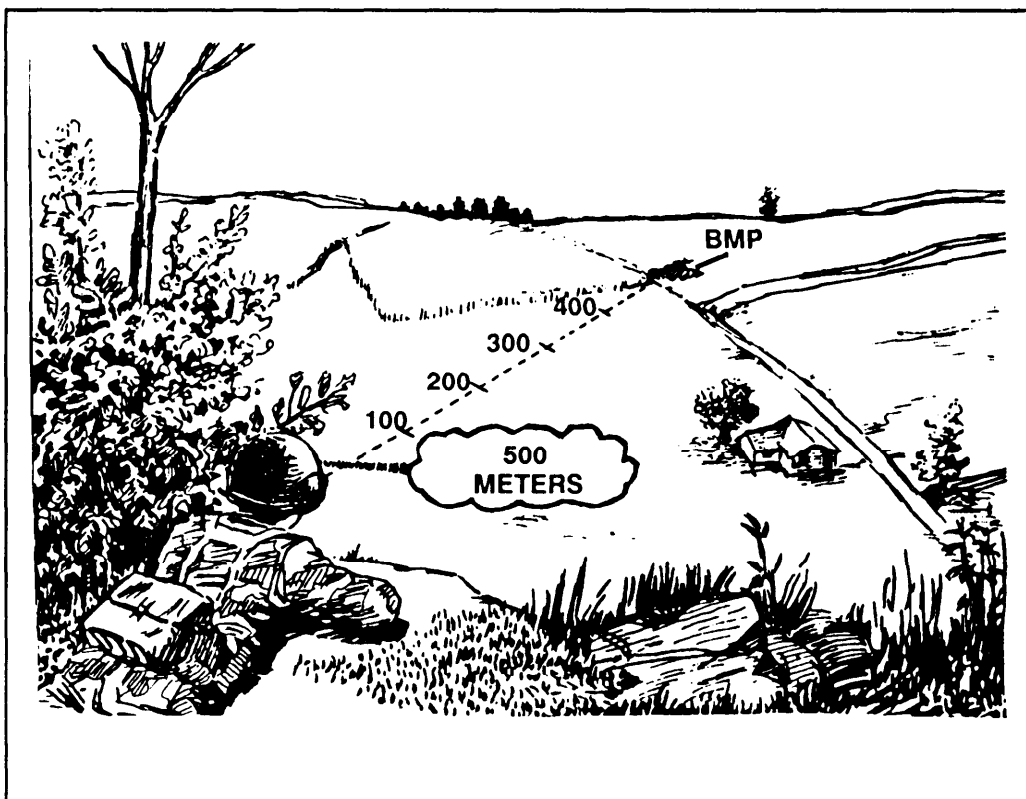

Figure 5-10. 100-meter unit of measure method, less than 500 meters.
(1) When using the 100-meter unit of measure method, the gunner must be able to visualize what 100 meters looks like on the ground. With this distance in mind, the gunner can mentally determine the number of 100-meter units between his position and the target. The accuracy of this method is limited to 500 meters or less, and it requires constant practice (Figure 5-10).